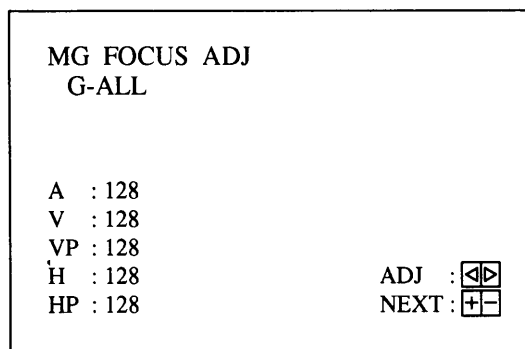

Figure 10
2. Press the FOCUS MG key to enter the Mg FOCUS adjustment mode. Confirm that the display as shown in Figure 10 appears.